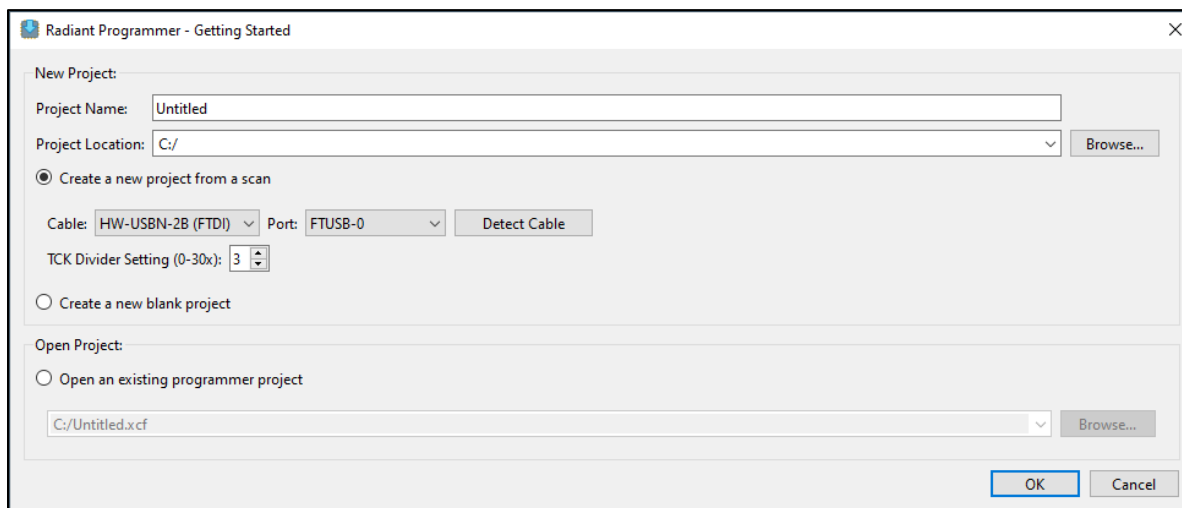

Figure 3.8. Starting Programmer
1. Start a programming project by launching the tool and initiating a board scan, as shown in Figure 3.8.